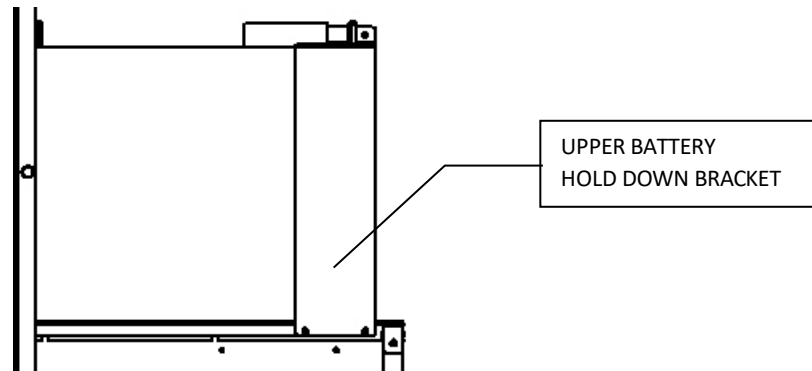

Figure 18
- Remove upper battery hold down bracket (see figure 18)